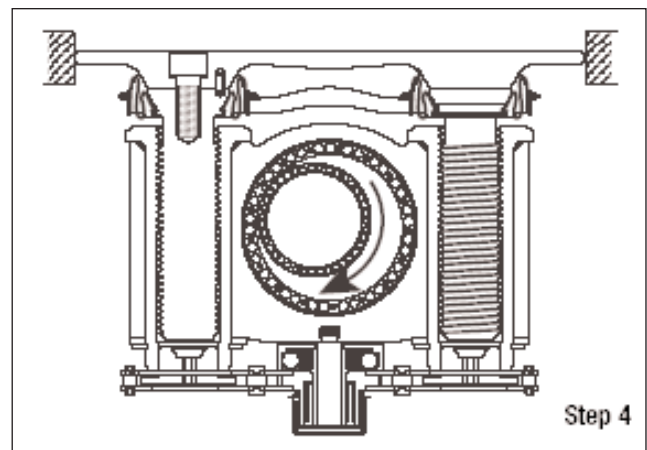

Fig 1.9
m) The unidirectional bearing free-wheels without transmitting motion to the gear housing, thus avoiding brake adjustment. The relative piston / sleeve adjustment position does not vary. Therefore, clearance compensation of pre-existing rotor and pads remains unchanged. (Fig. 1.9).